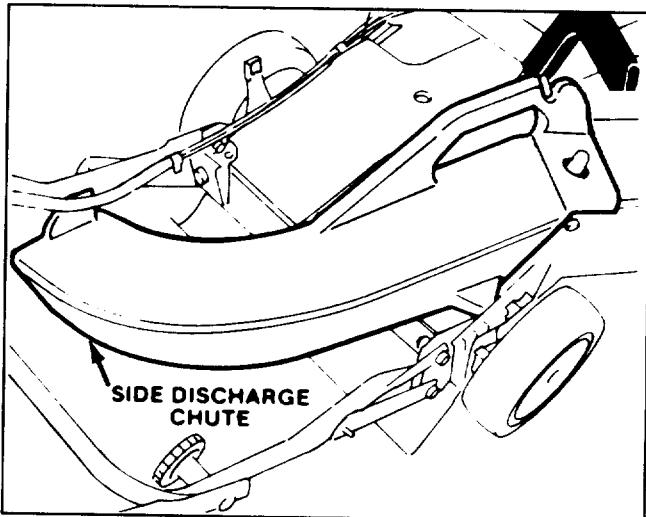

Figure 28
2. **Side Discharge Kit, Model 59168**—(requires Rear Bagging Kit, Model 59174). Installs in seconds. Rear mounted in place of grass bag or discharge tunnel plug. Disperses clippings while trimming on both sides (Fig. 28).